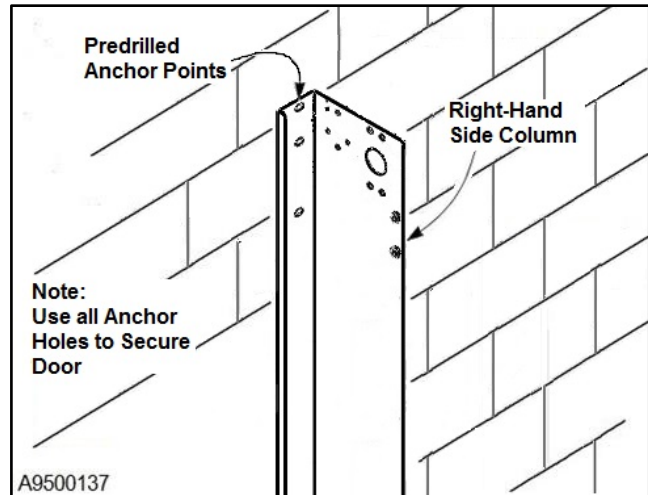

Figure 20
5. Using the predrilled anchor points in the back of the column as a reference, mark their location on the wall. (See Figure 20)